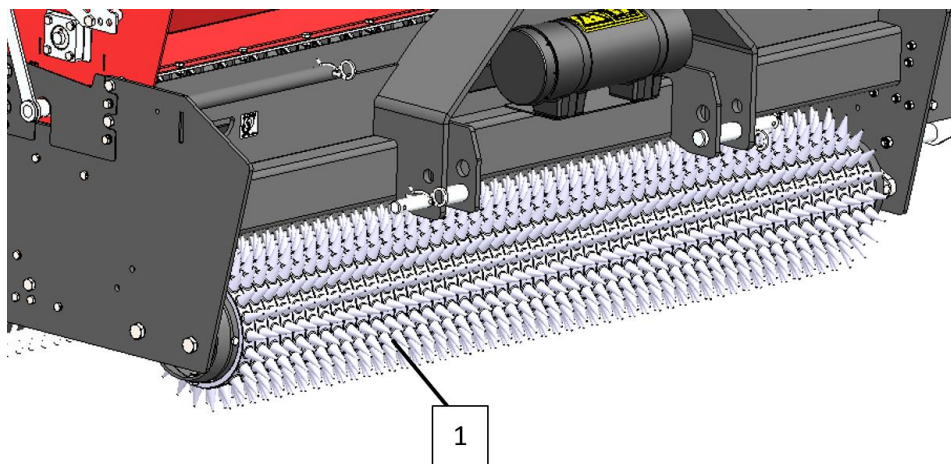

Fig.5-2
- Check the sowing elements (1) for damage and repair if necessary. (Fig.5-2)